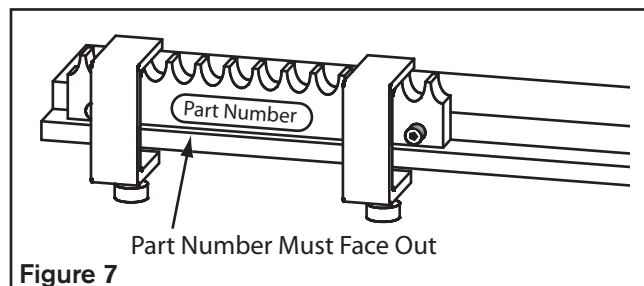

Figure 7
4. Apply a serviceable thread locking compound to the customer supplied mounting screws, lightly secure the first rack length to the mounting surface and clamp it in place while protecting the rack teeth by distributing the clamp load over several teeth. Make sure a clamp is close to each screw as it is tightened to ensure full rack to mounting surface contact. See Figure 7. Socket head cap screws are recommended for maximum pinion shoulder clearance. Make sure the side of the rack with the part number on it is not against the mounting surface and any cut rack ends are at the end of the run.